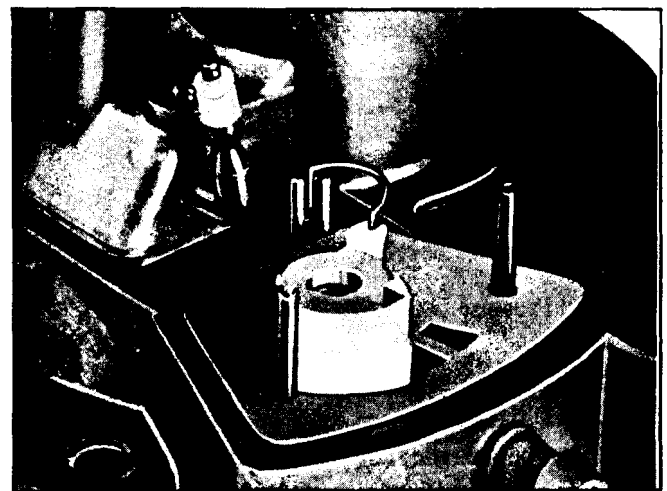

Fig. 4-20 Positioning Distributor Valve
4. Position distributor valve so that short foot of tension spring fits under valve and vertical leg is in slot (Fig. 4-20).